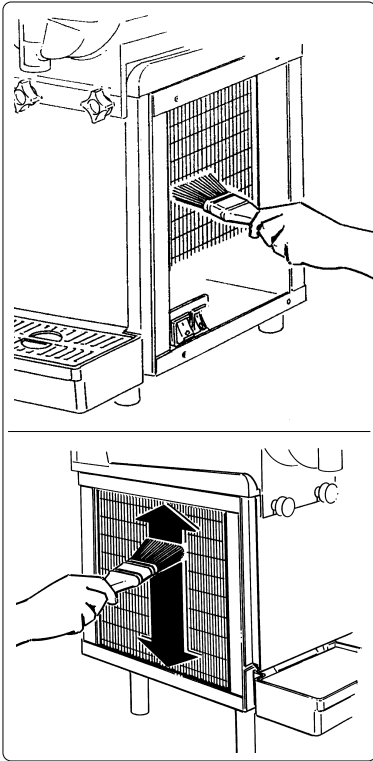

Fig. 20
- with a brush, remove any dust that has infiltrated between the blades of the condenser (see fig. 20).